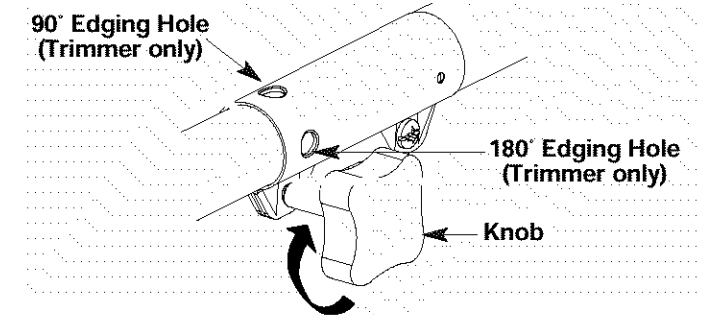

Fig. 21
1. Turn knob counterclockwise to loosen (Fig. 21).
3. Turn the knob clockwise to tighten (Fig. 21).
For edging when using the line head cutting attachment with EZ-Link™ models, lock the release button of the cutting attachment into the **90° edging hole** or the **180° edging hole** (Fig. 21).